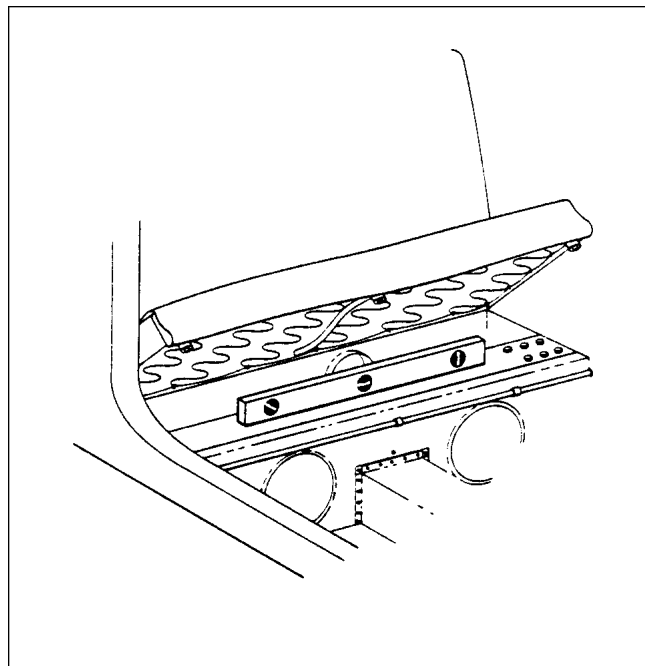

Figure 2-7. Leveling Laterally
- To laterally level the airplane, place a level across the spar box assembly under the rear seat. (Refer to Figure 2-7.) Raise or lower one wing tip by deflating the appropriate tire on the high side of the airplane or adjust either jack until the bubble of the level is centered.